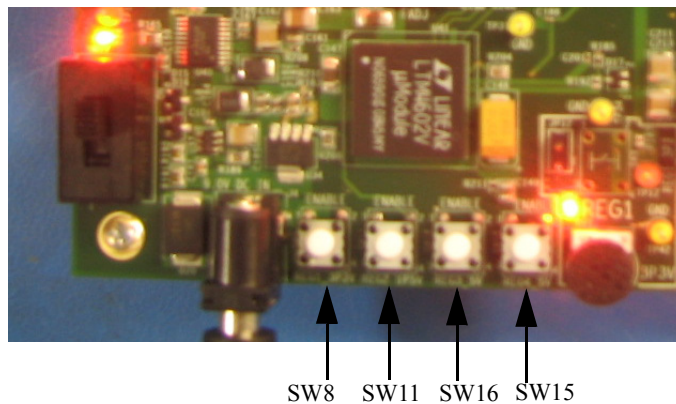

Figure C-25 · Press Push-Buttons SW8, SW11, SW16, and SW15
17. Press push-buttons SW8, SW11, SW16, and SW15, as shown in Figure C-25.